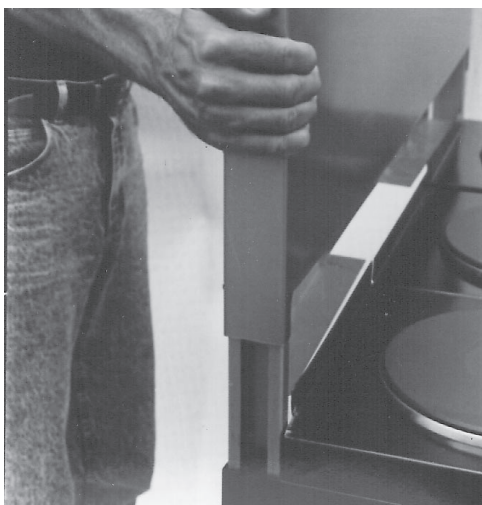

Fig. 27
4. Remove the backslash. (See fig. 27)
1. Remove the backplasher. (Fig. 27)